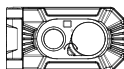

FIGURE 6
- A Turn in the direction indicated to lock the position Focused lighting or Diffuse lighting (Figure 6)